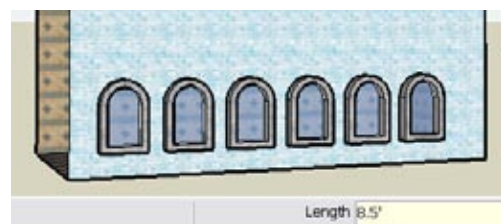

Figure 1-8
- Try  $8' 6''$  (Architectural format for 8 feet and 6 inches). You can enter this dimension most easily as  $8.5'$ . This still looks too crowded (Figure 1-8).